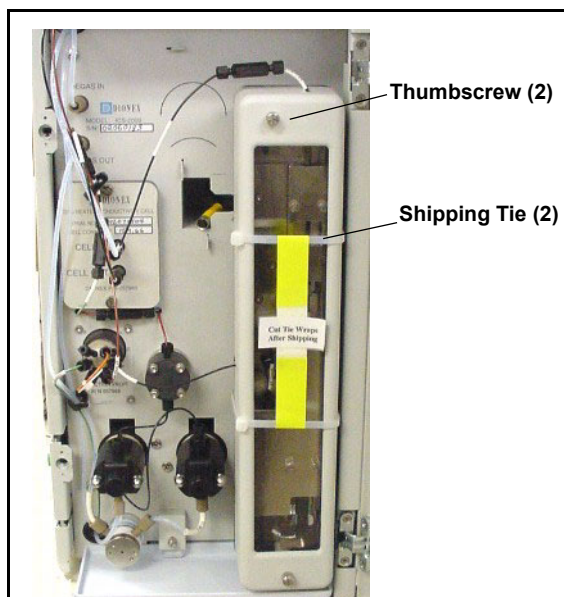

Figure 17. ICS-1000 Column Heater Setup
1. Cut off the two shipping ties from the column heater and remove them (see Figure 17).